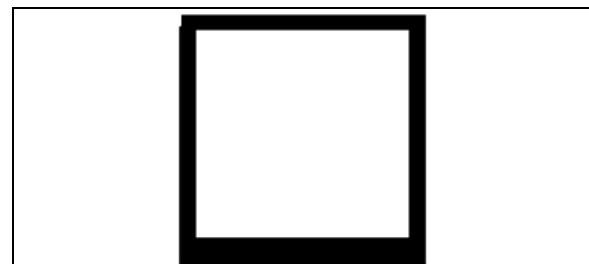

FIGURE 42: SIDE PANEL INSTALLATION – SIKA 206 G+P APPLICATION
3. Apply Sika 206 G+P on the side panel as shown in FIGURE 42;